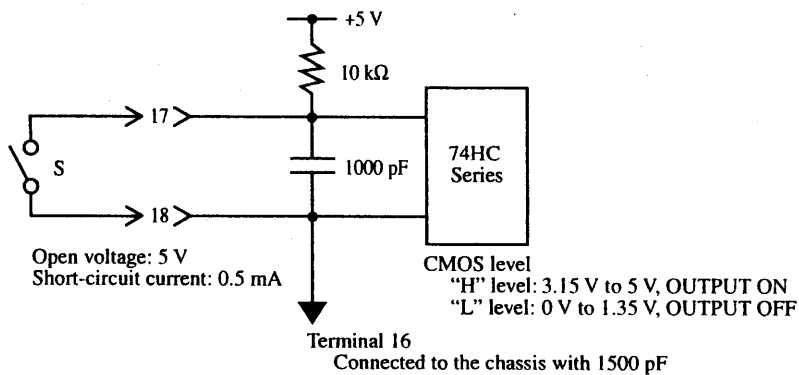

Fig. 4-9 Equivalent circuit
**DESCRIPTION** • Fig. 4-9 shows the equivalent circuit with contact S connected to terminals 17 and 18 on the J1 terminal board.